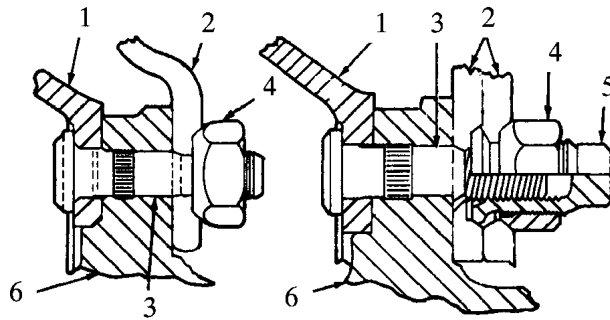
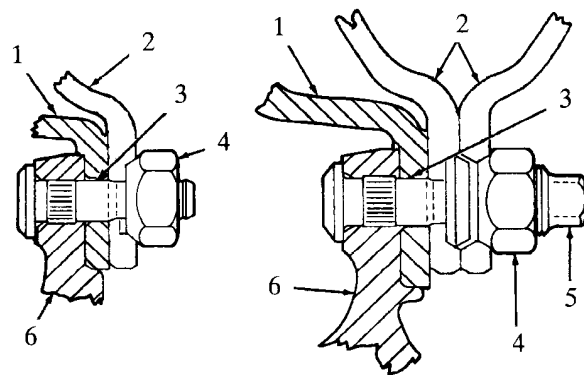

Figure 6 Inboard Mounted Drum Ball Seat (Conical) Nuts
Figure 7 Outboard Mounted Drum With Ball Seat Nuts
- A. Inboard mounted drums are secured to hub on brake group side of hub. Inboard mounted drums are always used with a cast spoke wheel. Also, some disc wheels use this application (Figure 6).
- B. Outboard mounted drums are secured between the wheel and hub, and are held in place by the wheel assembly. Outboard mounted drums will be used with disc wheels only (Figure 7).
Figure 6 and Figure 7 also illustrate the use of the BALL SEAT NUT MOUNTING SYSTEM.